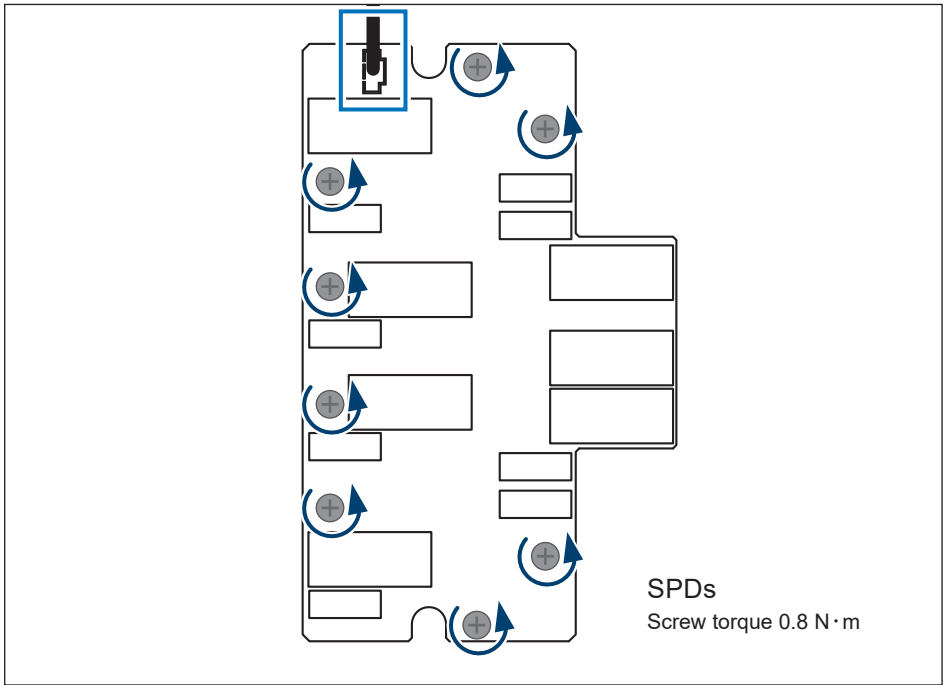

Figure 5-6: Remove sensing cable and screws
5. Use PH2 screwdriver loose 8 screws to remove SPD. (**Figure 5-6**)